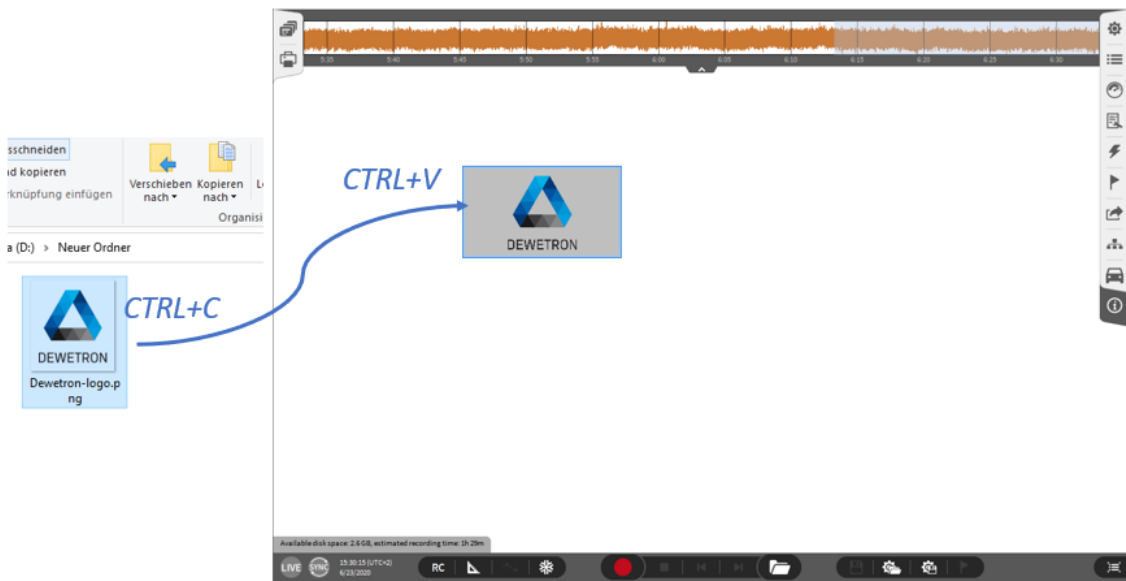

Fig. 8.34: Pasting an image file to the measurement screen
**Note:** An image file (.jpeg or .png) can also be copied and pasted directly from the Windows Explorer into the OXYGEN measurement screen (see Fig. 8.34).